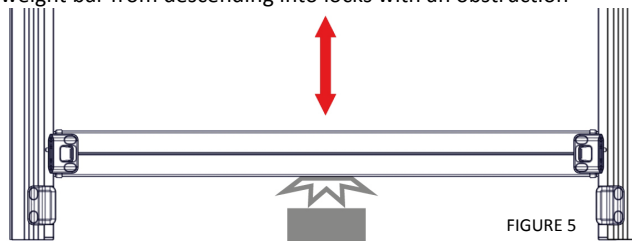
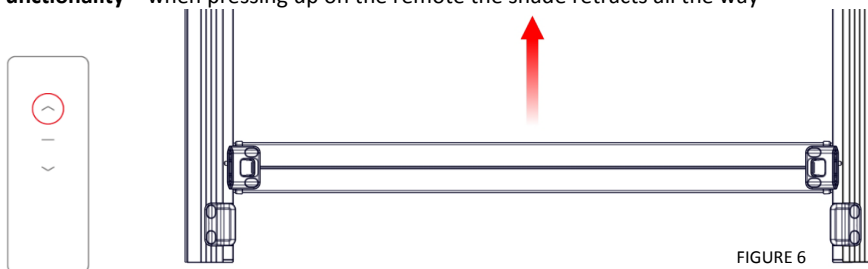

FIGURE 5
FIGURE 6
Step 2: 'Obstruct weight bar' (figure 5) & Press **UP/DOWN** on remote until 'proper functionality' is achieved (see figure 6)
Step 2: 'Obstruct weight bar' (figure 5) & Press **UP** on remote until 'proper functionality' is achieved (see figure 6)